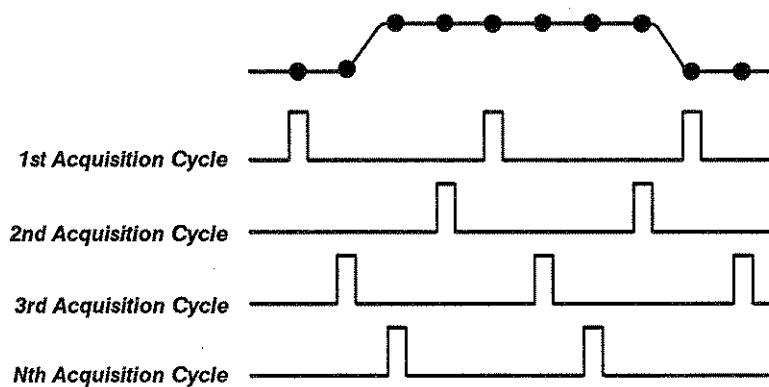

Figure 2-17: Equivalent Time - Random Sequential Sampling
Equivalent-Time Sampling — In equivalent-time (ET) sampling the oscilloscope acquires signals over many repetitions of the event (Figure 2-17). Thus, you use it on repetitive signals. The oscilloscope takes a few samples at each repetition, and then reconstructs the waveform in equivalent time. This allows your instrument to accurately acquire signals whose frequency components are much higher than its real-time sample rate.